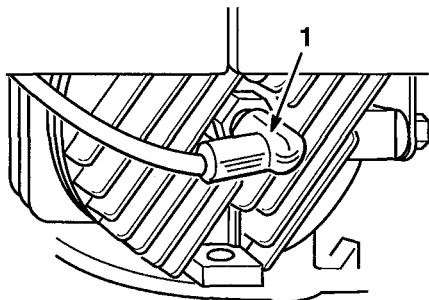

Figure 42
1. Stop engine and disconnect spark plug wire (Fig. 42) before installing or removing grass chute.
- Stop engine and disconnect spark plug wire (Fig. 42) before installing or removing mulch plate.